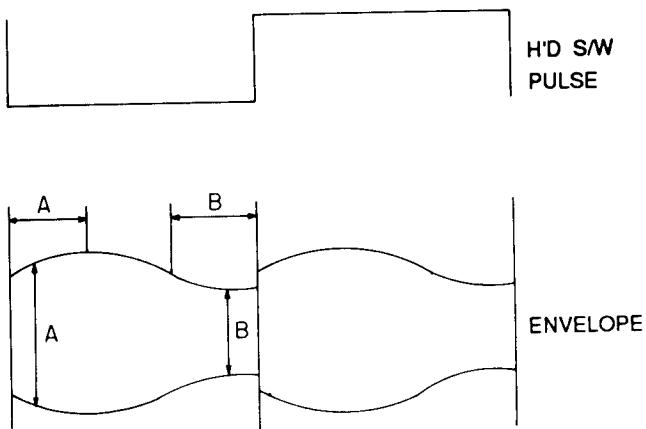

Fig. 11 Adjustment Points
4. If the section A in Fig. 11 does not meet the specification, adjust the S-guide roller up or down.
5. If the section B in Fig. 11 does not meet the specification, adjust T-guide roller up or down.